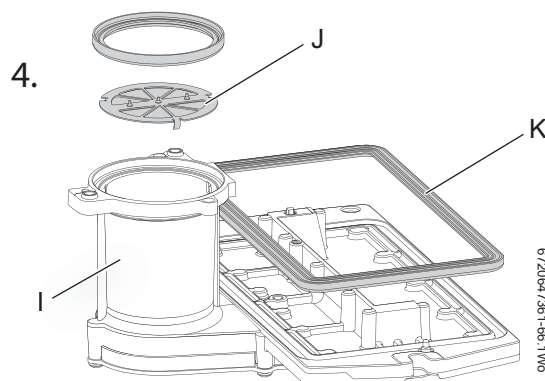

Fig. 69 Diaphragm
- Remove the burner (H).
- Ensure that a new seal (K) is used, refer to fig. 69.